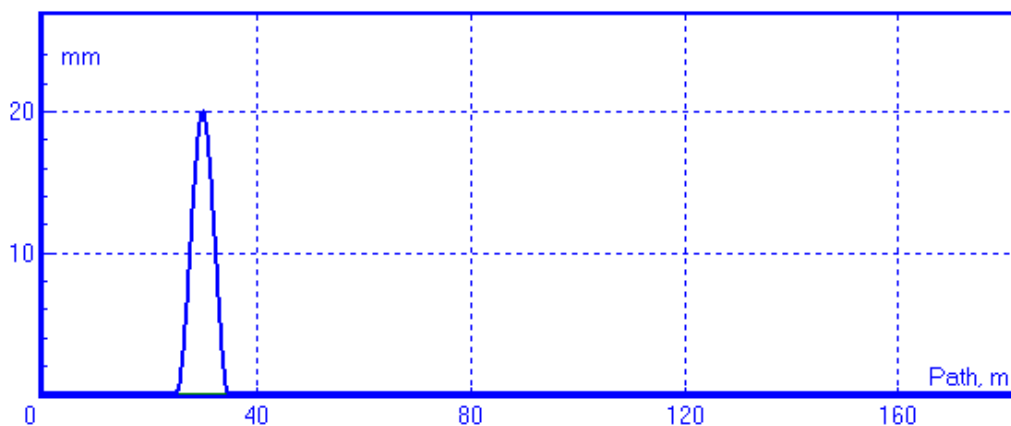
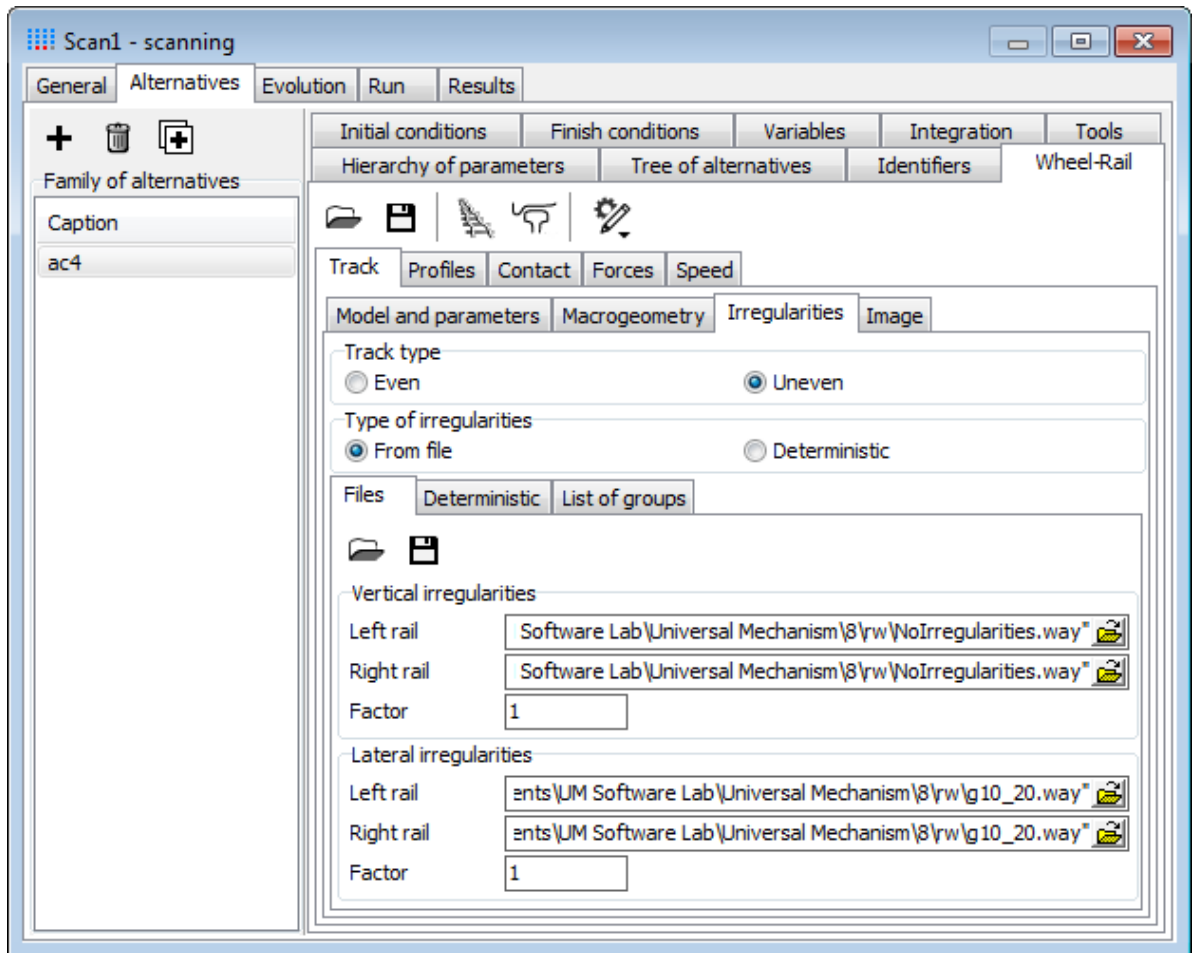

Figure 3.8. Single lateral irregularity. File **g10\_20.way**
Figure 3.9. Railway track irregularities
4. Open file **NoIrregularities.way** for vertical irregularities and **g10\_20.way** (see Figure 3.8) in lateral direction, see Figure 3.9.